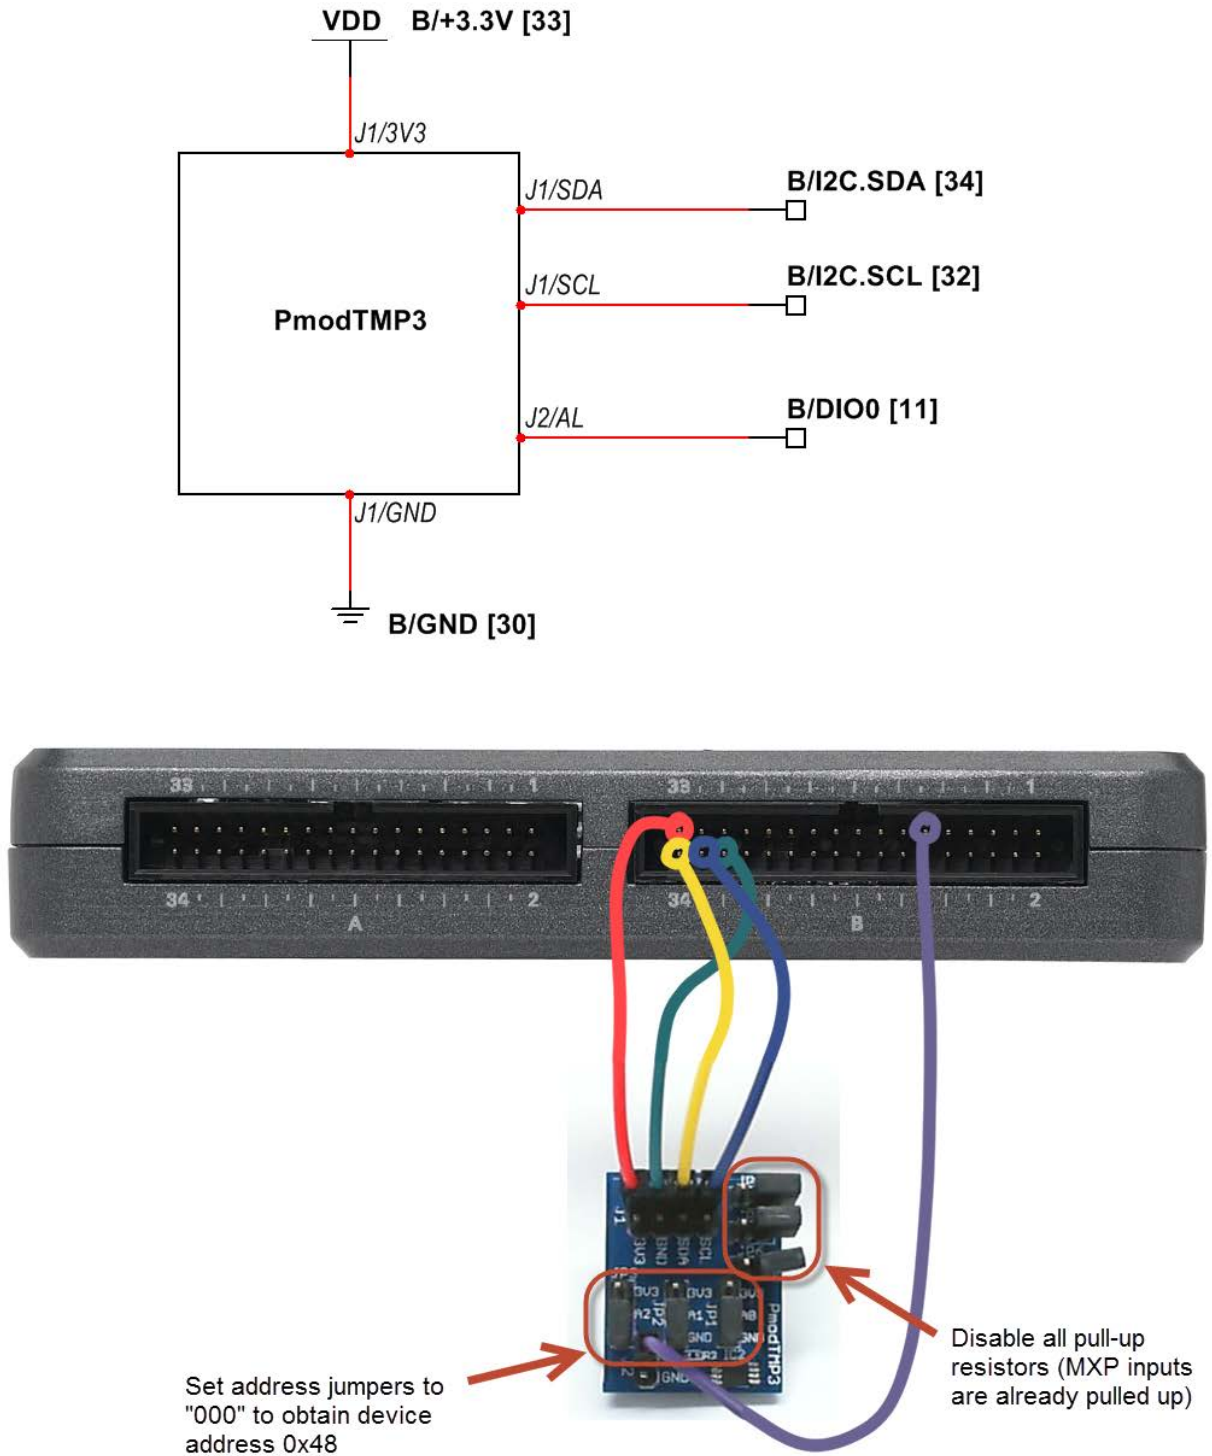

Figure 33.2: Demonstration setup for temperature sensor connected to NI myRIO MXP Connector B. Set *all* jumpers exactly as shown.
**Build the interface circuit:** Refer to the schematic diagram shown in Figure 33.2 on page 153; the temperature sensor requires five connections to NI myRIO MXP Connector B (see Figure A.1 on page 233):
- Correct `PmodTMP3` address jumper settings — refer again to the circled region of Figure 33.2 on the next page for the proper settings.